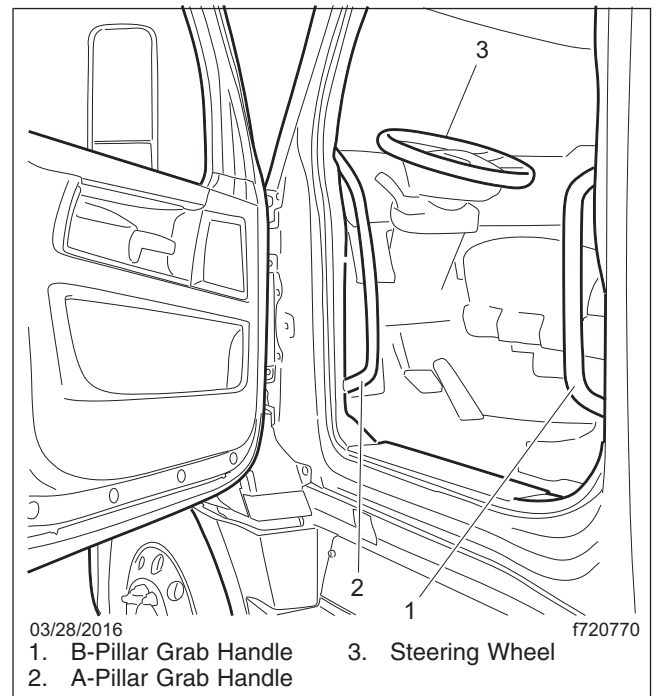

Fig. 2.9, Driver-Side Cab Access
2. Facing the cab, grasp the B-pillar and A-pillar grab handles with your hands. See Fig. 2.9.
1. Grasp the steering wheel with your right hand and the A-pillar grab handle with your left hand, and place your left foot on the top step. See Fig. 2.9.